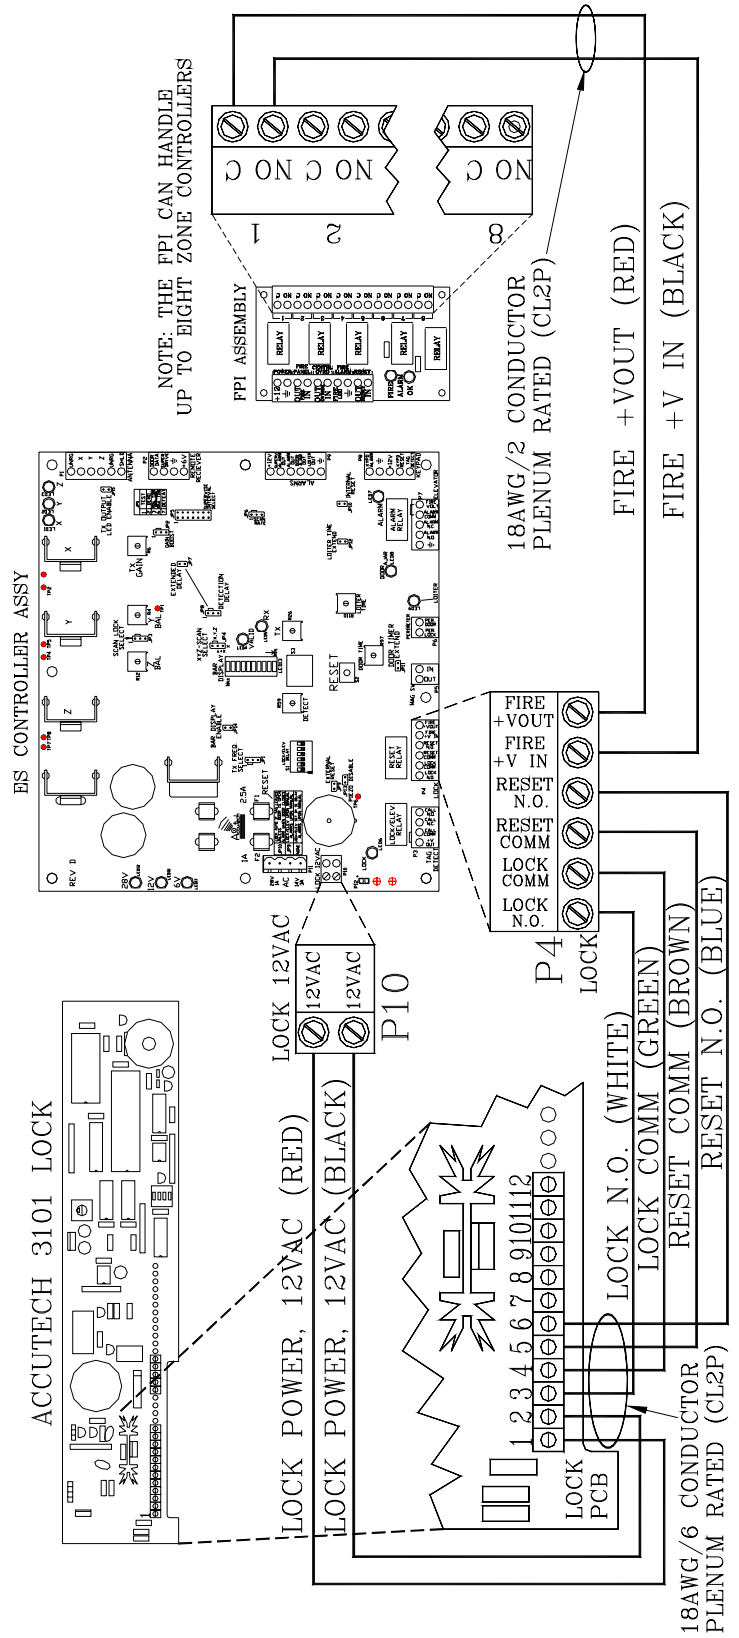

Figure 11.2 Connecting the 3101 Magnetic Lock
The 3101 Lock has one jumper on it, the Fire Panel Jumper (Figure 11.2). By default it is placed in position 2-3. You **must** move this jumper (and leave it) into position 1-2 (the left two pins) before you install the Lock.
3. Remove the Fire Alarm Control jumper (see Figure 11.2).
4. Make sure DS1 (the Lock selector switch) Position 3 is in the **OFF** position (see Figure 11.2).
5. Move DS1 Position 1 to the **ON** position (see Figure 11.2).
8. Apply power to the Lock by powering up the Controller. The Lock LED will light up both Green and Red (kind of Yellow) while it goes through its power up sequence (about 5 seconds) (see Figure 11.2).
NOTE: For slight adjustments, there is a Sensor pin access hole in the PCB of the Lock (see Figure 11.2) However, depending on how the internal lock wires are situated this may not be feasible. If this is the case, it is recommended that you deflect the door farther until you can adjust the Sensor pin directly with the Allen wrench.
14. Replace the Fire Alarm Control jumper into the **N.C.** position (pins 1-2) (see Figure 11.2).
15. Move DS1 Position 1 into the **OFF** position (see Figure 11.2).
16. Move DS1 Position 3 into the **ON** position (see Figure 11.2).
The delay time is set by Position 3 on the Selector Switch (S1) on the Lock PCB (see Figure 11.2).
The delay time is set by Position 4 on the Selector Switch (DS1) on the Lock PCB (see Figure 11.2).